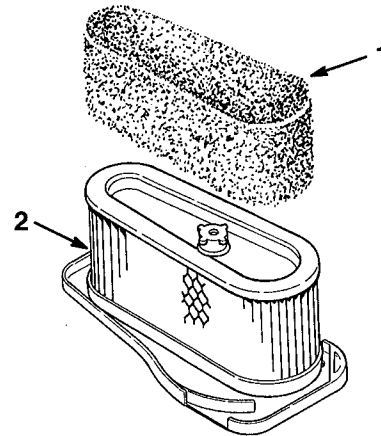

Figure 28
4. Carefully slide the foam element off the paper element (Fig. 28).
- Carefully slide the foam element onto the paper air cleaner element (Fig. 28).